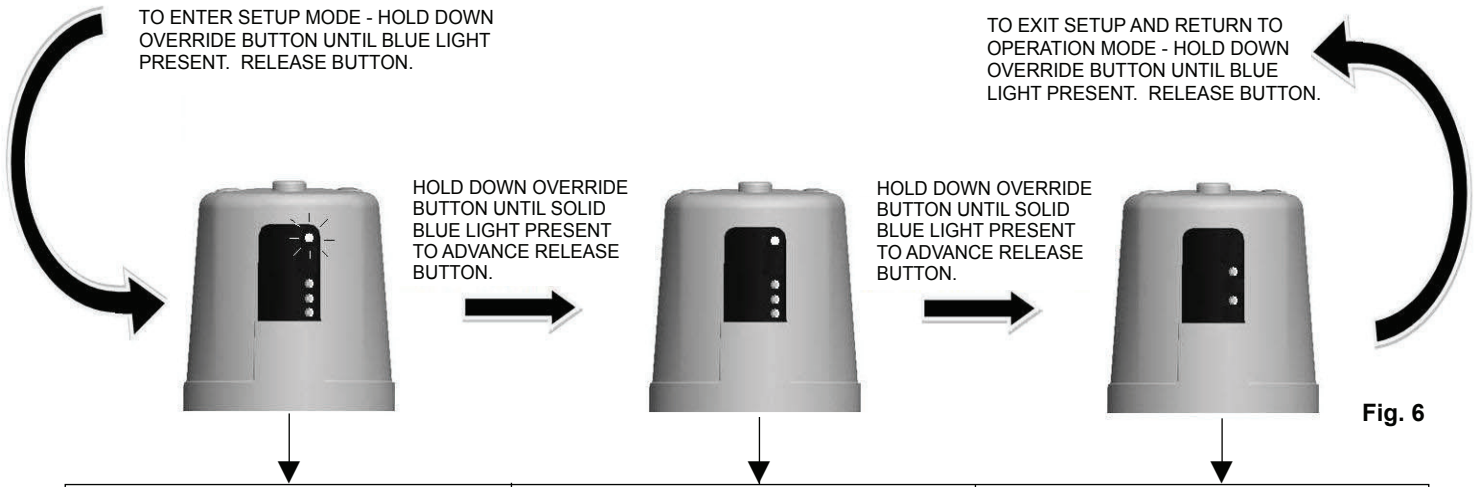

Fig. 6
- While in Set-Up Mode, the user will move through the different adjustment modes one by one, in the order as described above. Use the override button to toggle through the different settings of the adjustment feature being altered. To advance to the next adjustment mode, hold down override button until blue light is present, then release the button. See Figure 6.
- Configure the sensing range by selecting the appropriate bowl length. Refer to Figure 6 for the different bowl length settings.